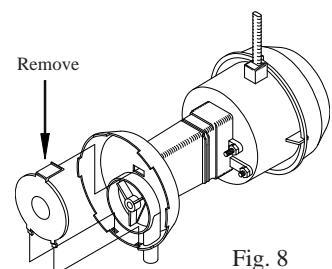

Fig. 8
- Clean pump.** Cleaning the pump is necessary once a year at start-up. For your safety, disconnect from power source and unplug pump. Remove the pump from the mount bracket. Remove the base of the pump (Fig. 8). Clean the pump and turn the impeller to ensure free operation. Remove the pump spout and check for any blockage. After cleaning, reinstall the base onto the pump. Reattach the pump to the mount in the cooler to ensure that the pump will not overturn. Do not forget to replace the spout and water delivery tube onto the pump outlet. The pump has automatic reset thermal protection. Pump will operate normal again after obstruction is cleared.